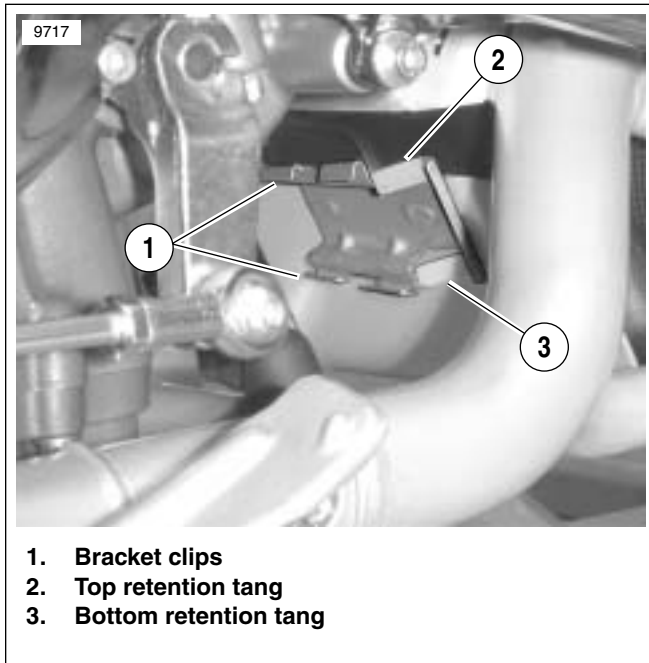

Figure 4-21. Charcoal Canister Mounting Bracket (typical)
2. See Figure 4-21. With a screwdriver, press the retention tang (3) in on the bottom of the canister bracket while pressing on the opposite side of the canister. When the bracket on the canister slides just far enough out of the bracket clips (1) to hold the bottom tang in, press in on the top tang (2) and continue to slide the charcoal canister out until it drops free from the bracket clips.
2. See Figure 4-21. Press the canister in toward the bracket until it holds both the upper and lower retention tangs in.
3. Slide the canister into the bracket clips (1) until the tangs (2, 3) snap into place.